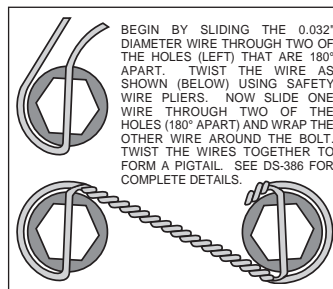

Figure 4. Safety Wire Diagram
- Orient the rotor (3) and the hat (4) as shown in Figure 1 and Photo 2. Attach rotor to hat using bolts (6) and washers (5). Using an alternating sequence, apply red *Loctite*® 271 to the threads and torque bolts to 140 in-lb. For an added measure of security, the bolts may be safety wired using standard 0.032 inch diameter stainless steel safety wire as shown in Figure 4.